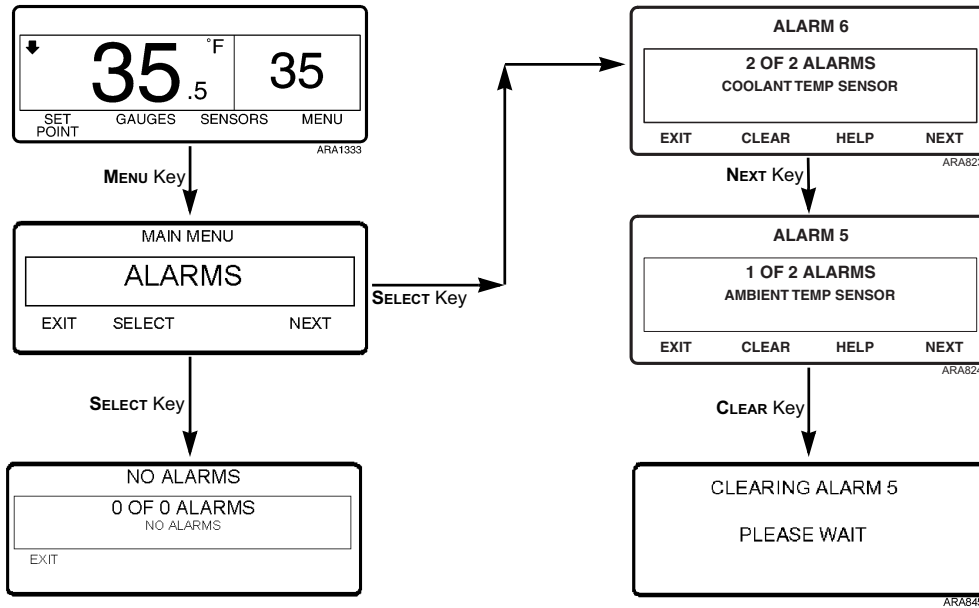

Figure 65: Viewing and Clearing Alarms Screen Sequence
4. Press the **SELECT** soft key. The Alarm Display will appear. See Figure 65.
6. If alarms are present, the quantity of alarms (if more than one), the alarm code number and alarm description will be shown on the display. In the following example (see Figure 65), there are two alarms present. The most recent is Alarm Code 6. This alarm code indicates a problem with the coolant temperature sensor.
7. After the alarm situation is resolved press the **CLEAR** key to clear the alarm. To display the next alarm, press the **NEXT** key (see Figure 65).